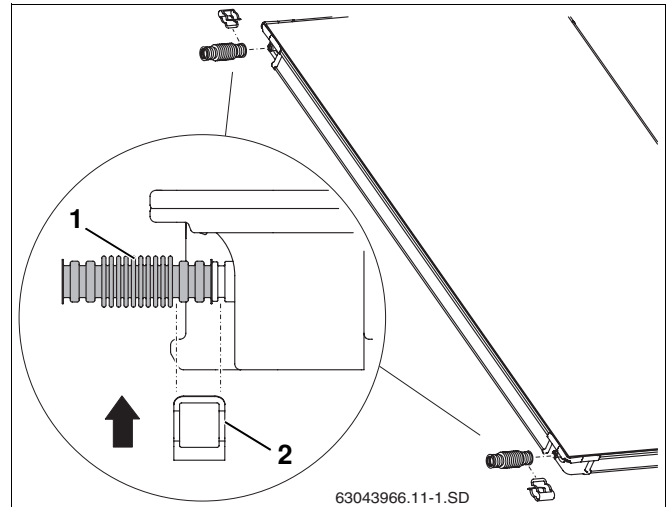

Fig. 48 Fitting corrugated pipe connectors to the first collector
- Push corrugated pipe connectors (Fig. 48, **Item 1**) onto the left-hand connections on the first collector.
- Push bracket (Fig. 48, **Item 2**) over the corrugated pipe connector and collector connection to secure the connection.